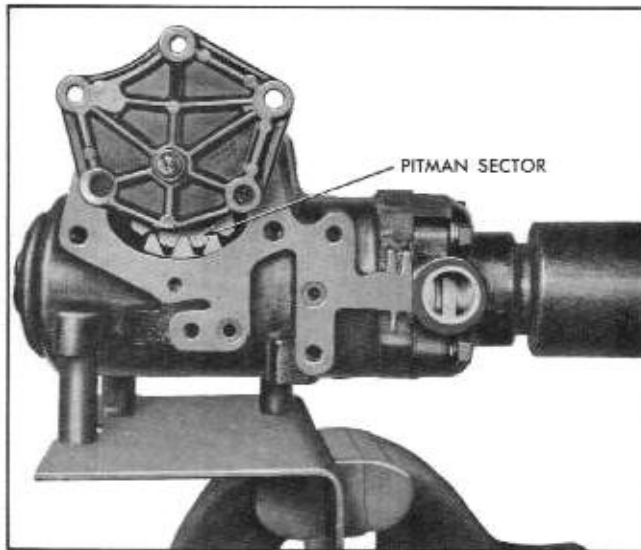

Fig. 9-31 Pitman Sector Alignment
2. Align pitman sector with opening in gear housing (Fig. 9-31). Tap end of pitman shaft with a soft hammer and slide shaft out of housing.